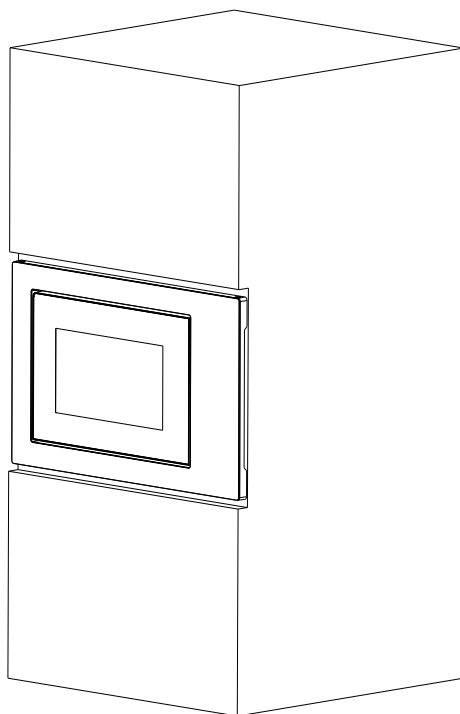

Fig. 2
b) Push the microwave oven till to the end. (Fig. 2)